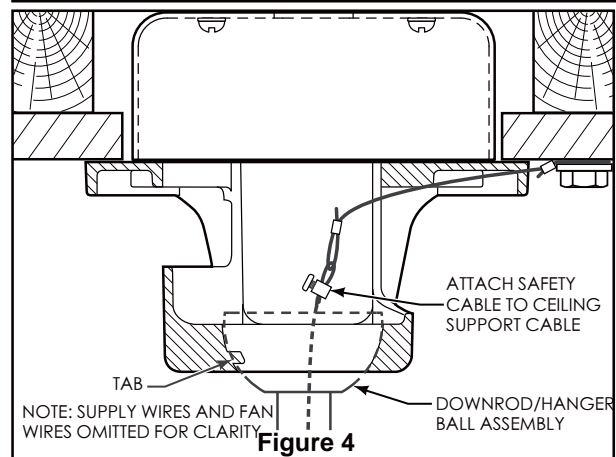

Figure 4
- 4. Slide downrod into the downrod support on top of the motor. Install the clevis pin by aligning the holes in the downrod support with holes in the downrod. Secure clevis pin with hairpin clip. Install and tighten the two set screws with nuts in the downrod support. (Figure 4)
4. Carefully lift the fan and seat the downrod/hanger ball assembly on the hanger bracket that was just attached to the ceiling joist. Be sure the groove in the ball is lined up with tab on the hanger bracket. (Figure 4)
5. Attach the safety cable to ceiling support cable. Slide cable clamp onto safety cable (from fan). Place the end of cable through the loop of ceiling support cable. Pull as much cable through loop as possible. Feed end of cable into clamp hole and firmly tighten screw (Figure 4). Cut off excess safety cable.
3. Connect wires using connectors as shown in Figure 4.
- 4. To set the remote code with a small screwdriver or ball point pen (neither included), slide dip switches firmly up or down. (Figure 4)